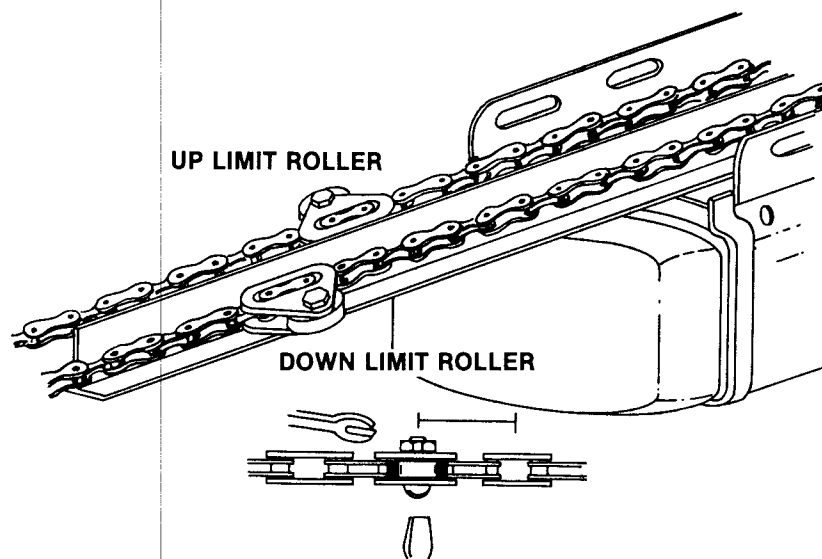

FIG. 8
STEP 7. With the disconnect still in the release position, start the operator in the closing direction (carrier forward) by means of the pushbutton and allow it to stop on the DOWN limit setting. Should the position of the inner carrier slide not coincide with the position of the outer slide determined in **STEP 6**., it will be necessary to re-position the DOWN limit cam so that the outer slide of the carrier stops as close as possible to this point. Move the DOWN limit roller assembly on the chain toward the door if more travel is needed; toward the operator head to reduce travel of the carrier. (See Fig. 8).